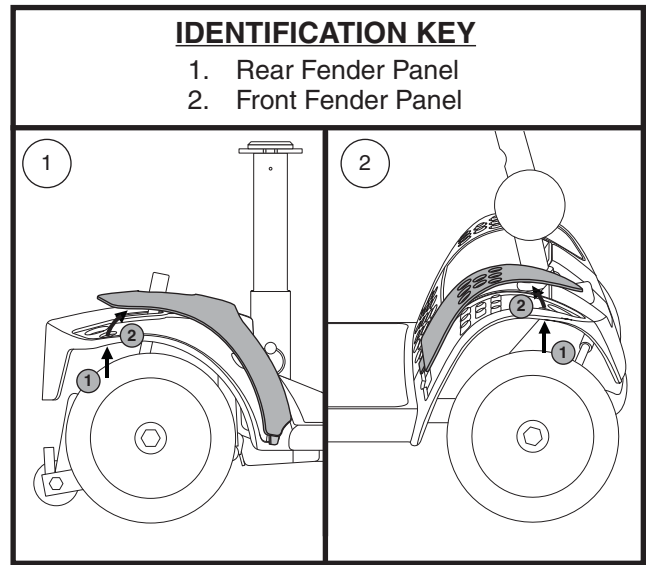

Figure 15. Fender Panels
2. Push through the hole to separate the piece from the Travel Scooter. See **figure 15**.
NOTE: When installing the front and rear fender panels, make sure the tab at the bottom of each panel is inserted into the tab opening before securing the panel. See **figure 15**.